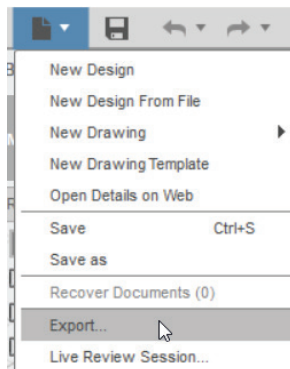
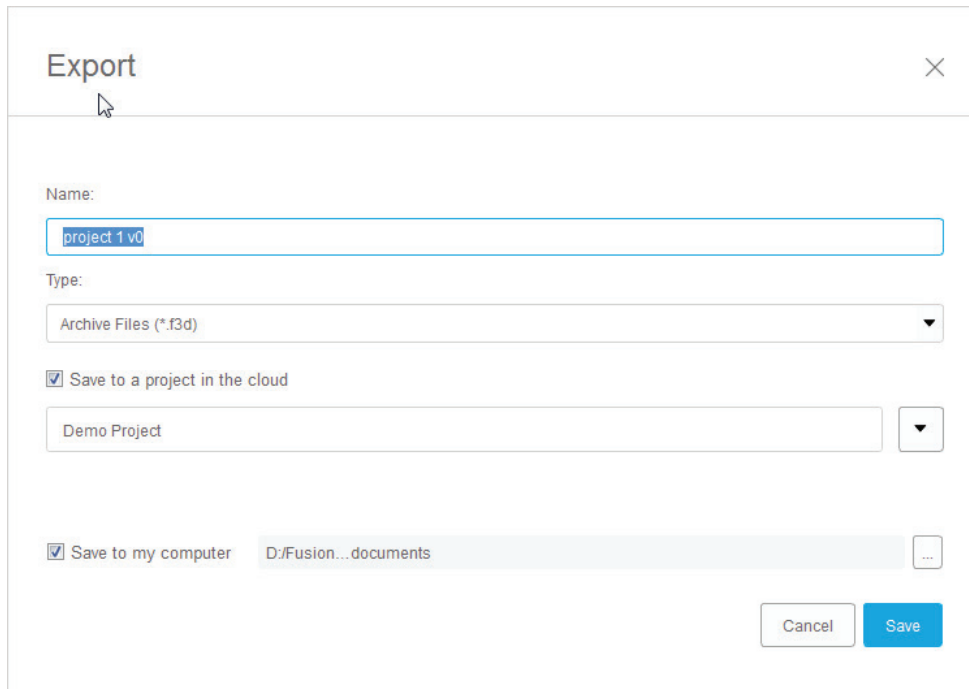

Figure-22. Export tool
Figure-23. Export dialog box
- Click on the **Export** tool from the **File** menu; refer to Figure-22. The **Export** dialog box will be displayed; refer to Figure-23.